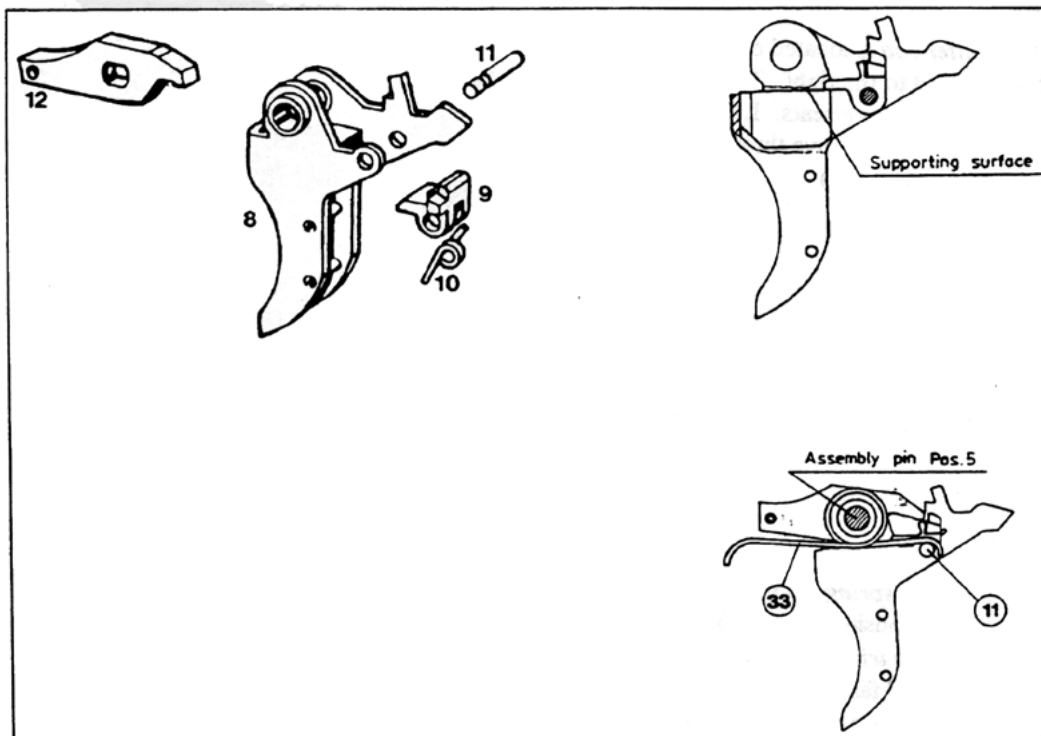

Figure 20
Push out the *sear release latch axle* (11), located to the rear of the *trigger* (8), remove the *sear release latch* (9) and *sear release latch spring* (10), (Fig. 20)